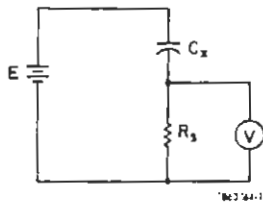

Figure 4-2. Basic megohmmeter circuit.
Measuring insulation resistance of large capacitors that have very low leakage is difficult by any method. Considering the basic circuit of Figure 4-2, if R_s is high, the $R_s C_x$ time constant can become very long on the high resistance ranges if C_x is large. If R_s is low, the voltmeter must be very sensitive for a given leakage resistance range and, therefore, the supply voltage (E) must be extremely stable to avoid large meter fluctuations. The design of the 1863 and 1864 is a compromise between these factors. Measurements become difficult when the $R_s C_x$ product is 10^6 , even under ideal conditions. This can be calculated as (C_x in μF) \times (R_s in $\text{M}\Omega$) or (C_x in F) \times (R_s in Ω). Table 4-1 contains values for R_s .